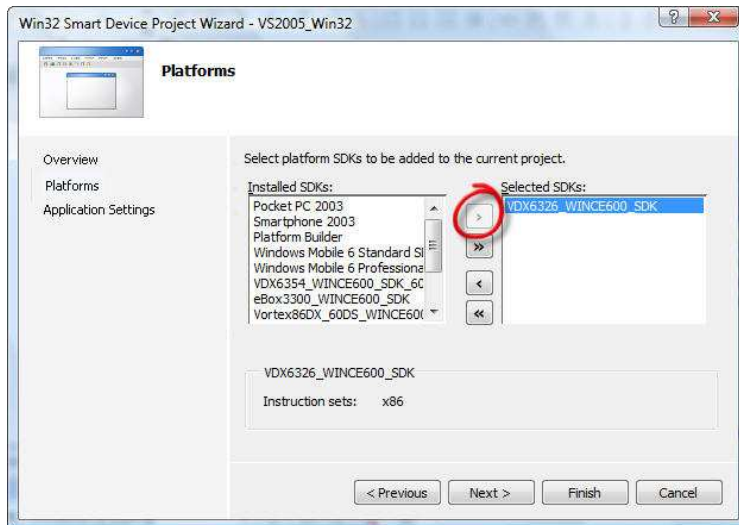

Fig. 51 - Platform and SDK selection
- Click on the right pointing arrow, located to the right of the Installed SDKs pane, to add the **VDX6326_WINCE600_SDK** to the selected SDKs pane, as shown in Figure 51.